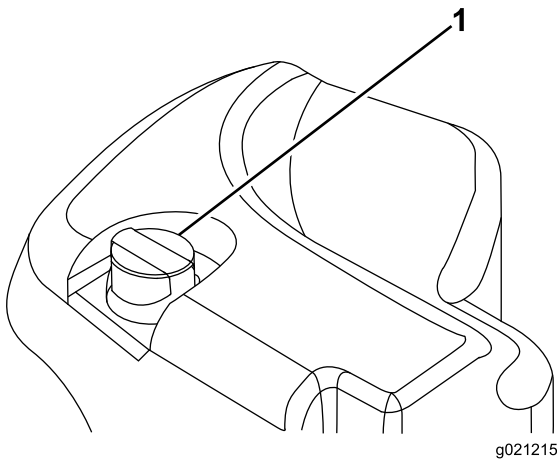

Figure 29
- Mobil EAL EnviroSyn H 46 (US)
2. Clean the area around the filler neck and the cap of the hydraulic tank (Figure 29). Remove the cap from the filler neck.